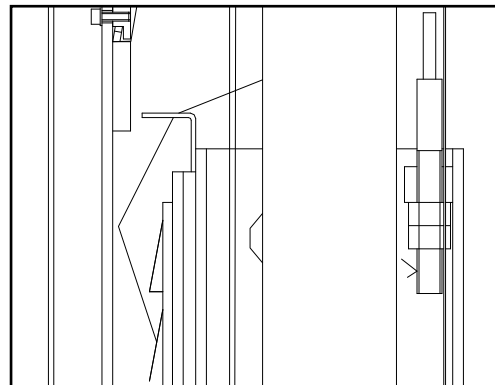

Fig. 14
- ◆ Keep both cables in balance during raising or lowering. (**Fig. 14**)